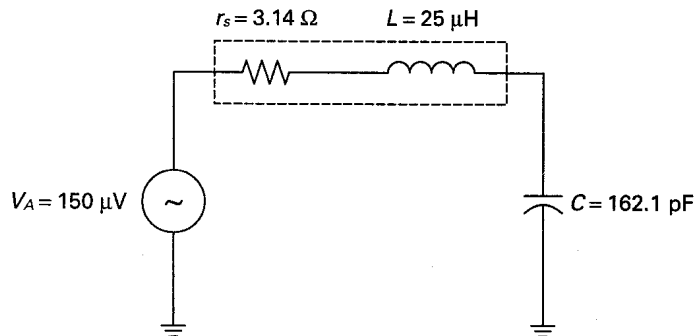

Fig. 1-1
Figure 1-1 shows a series LC circuit. The series resistance  $r_s$  is a representation of the coil's own internal resistance. Because the circuit does contain some series resistance, it can be considered a series RLC circuit. Since the values of  $L$  and  $C$  are given as  $25 \mu\text{H}$  and  $162.1 \text{ pF}$  respectively, the resonant frequency  $f_0$  can be calculated as follows:
**EXAMPLE 1.1.** In Fig. 1-1, calculate the following unknown quantities:  $Q$ ,  $V_L$ ,  $V_C$ ,  $BW$ ,  $f_1$ , and  $f_2$ . Assume that the generator frequency is equal to the resonant frequency  $f_0$  of the LC circuit.